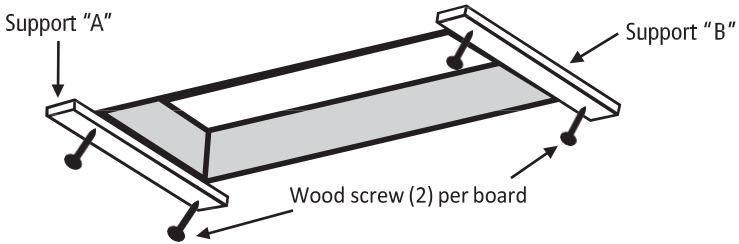

FIGURE 4: View from below
A. Attach temporary supports "A" and "B" using 2 ½" wood screws as described below and shown in figures 4 and 5.